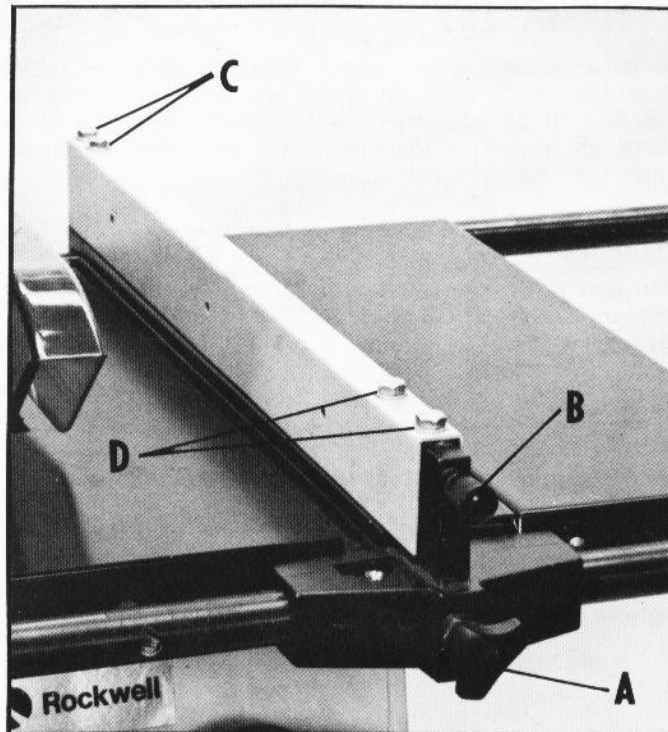

Fig. 20
The rip fence can be used on either side of the saw blade. The most common location is on the right hand side. To move the rip fence, loosen both front lock knob (A), and rear lock knob (B) Fig. 20, and move the fence to the desired position. If an adjustment to the pointer is necessary, loosen pointer screw and move pointer to the correct position.
The blade is set parallel to the miter gage slot at the factory. The fence should be adjusted so it is parallel to the miter gage slot. To check the rip fence, set it at one of the miter gage slots, as shown in Fig. 20. Tighten the front lock knob (A) and rear lock knob (B). The fence should then line up parallel with the miter gage slot. If an adjustment is necessary, loosen fence adjusting screws (D) and rear lock knob (B) Fig. 20. With the front lock knob (A) still tight, move back end of fence to the right or left lining it up to the miter gage slot. Then tighten rear lock knob (B) and fence adjusting screws (D) Fig. 20.